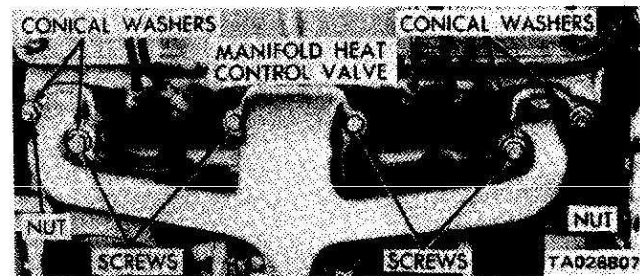

Figure 2-58. Installation of Exhaust Manifold.
(1) Place the manifold on the two studs on the cylinder head.
(2) Put the conical washers and nuts on the studs (figure 2-58).